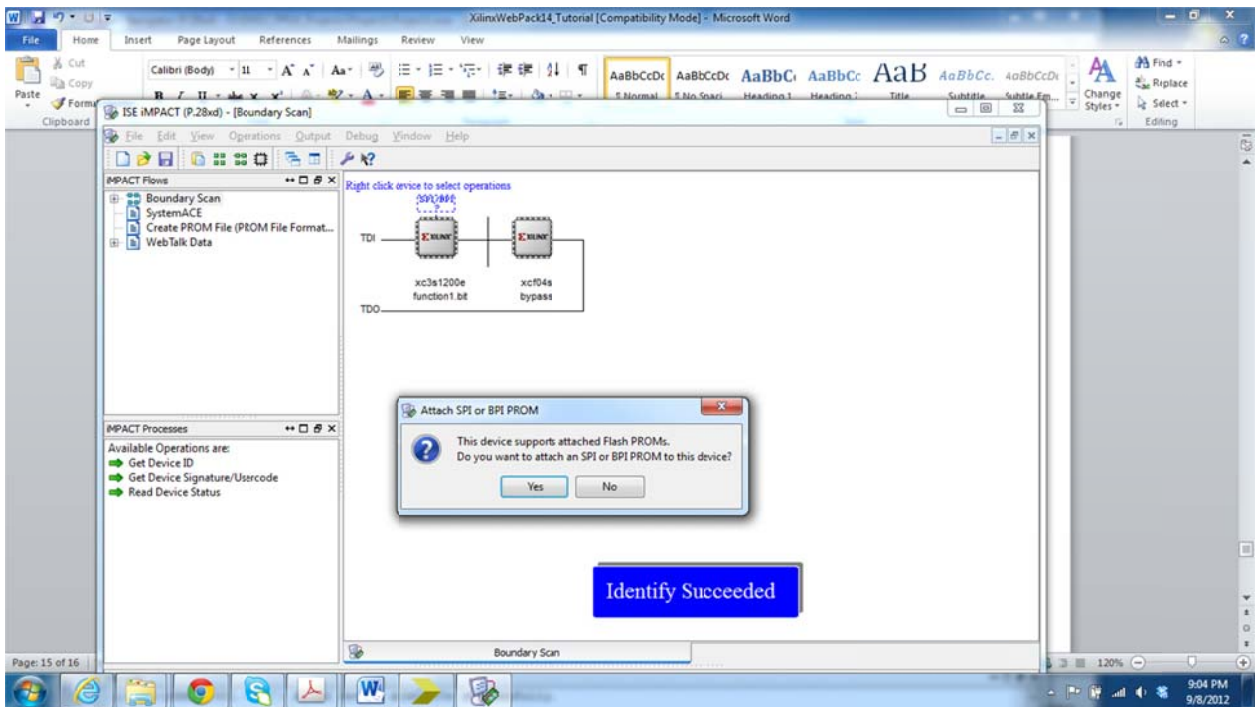

Figure 17B
17. At this time, we are not using the Flash, thus click **NO** on the message shown in Figure 17B. And then **Cancel** on the following window.